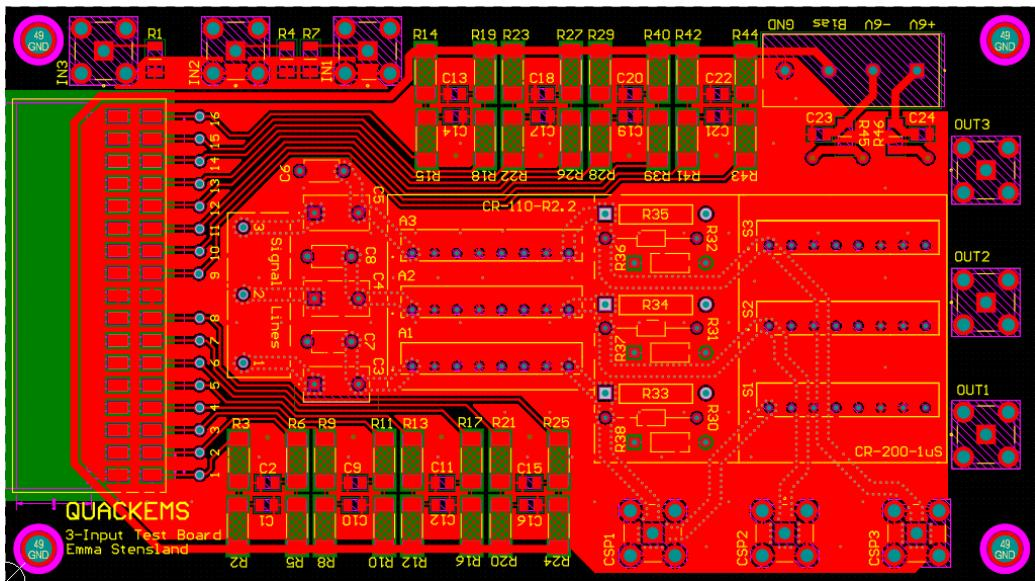

Figure 9: Layer 1 of 3-Input Test Board
1. Ground Plane, Bias Signals, Surface Mount Signals (Fig. 9)